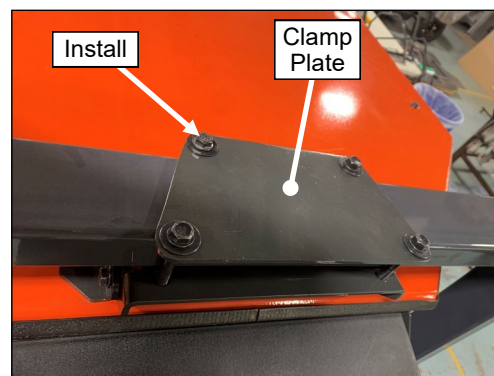

Fig. 5.13 (Install Upper ROPS Clamp Plate)
- 5.13 See fig. 5.13. Install the upper ROPS clamp plate to the top side of the ROPS and secure with the following hardware. Bolts can be tightened at this time. Hand tighten only. Do not over-tighten or plate will deform.